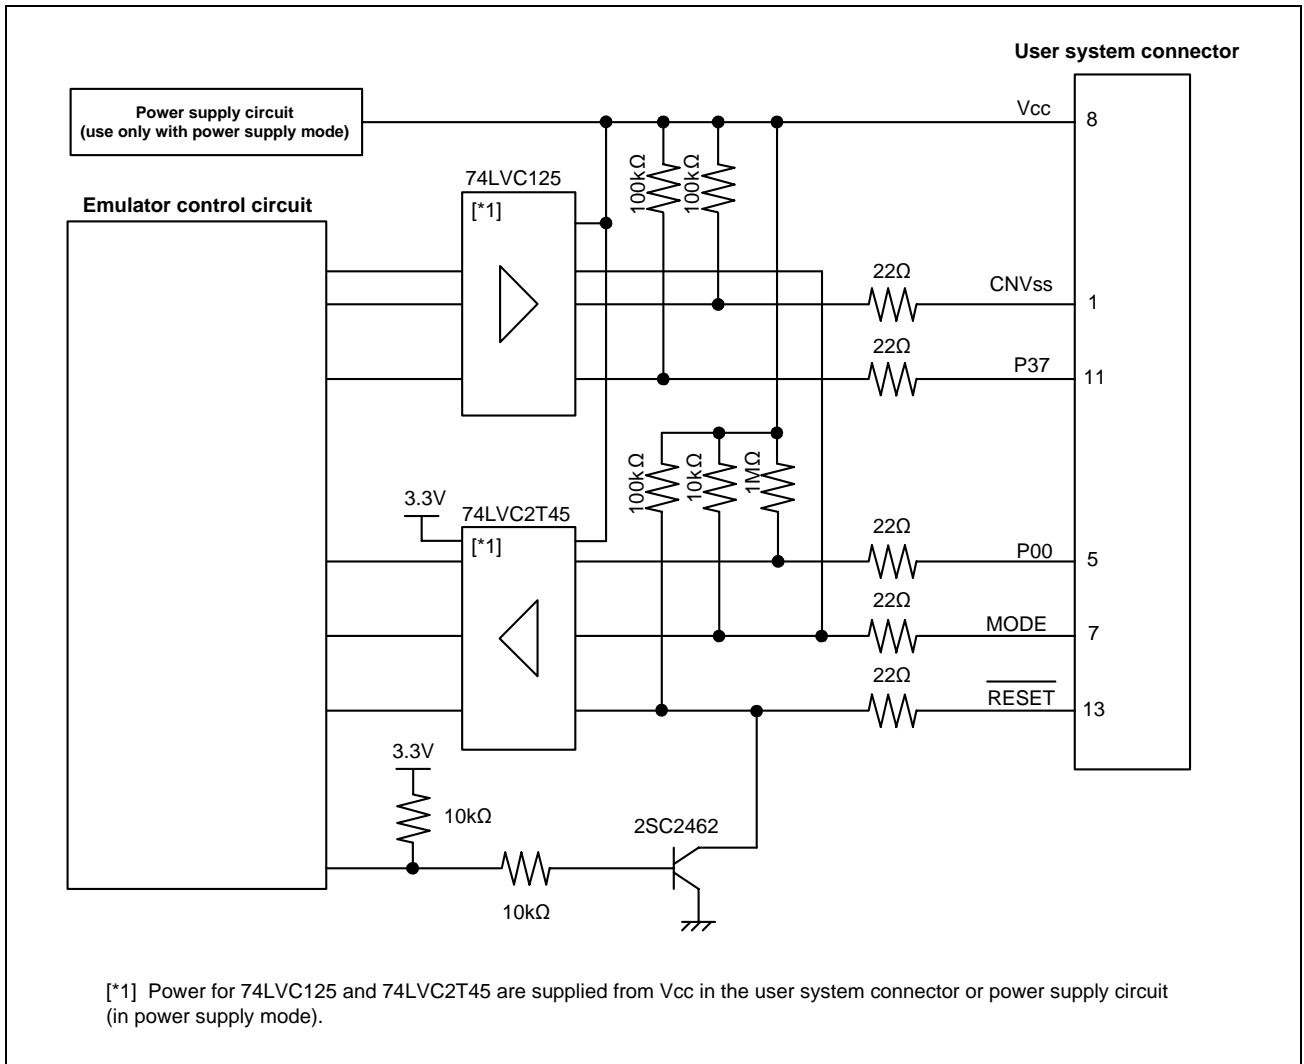

Figure 5.6 Interface Circuit Inside the E8a Emulator (For Reference)
9. Figure 5.6 shows the interface circuit in the E8a emulator. Use this figure as a reference when determining the pull-up resistance value.